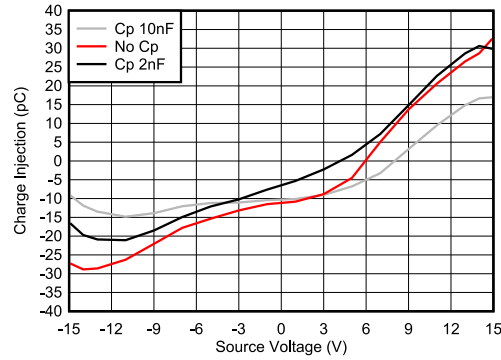

図 8-2. Charge Injection Compensation
The TMUX620x contain specialized architecture to reduce charge injection on the Drain (D). To further reduce charge injection in a sensitive application, a compensation capacitor (C_p) can be added on the Source (Sx). This will ensure that excess charge from the switch transition will be pushed into the compensation capacitor on the Source (Sx) instead of the Drain (D). As a general rule of thumb, C_p should be 20x larger than the equivalent load capacitance on the Drain (D). Figure 8-2 shows charge injection variation with different compensation capacitors on the Source side. This plot was captured on the TMUX6219 as part of the TMUX62xx family with a 100pF load capacitance.